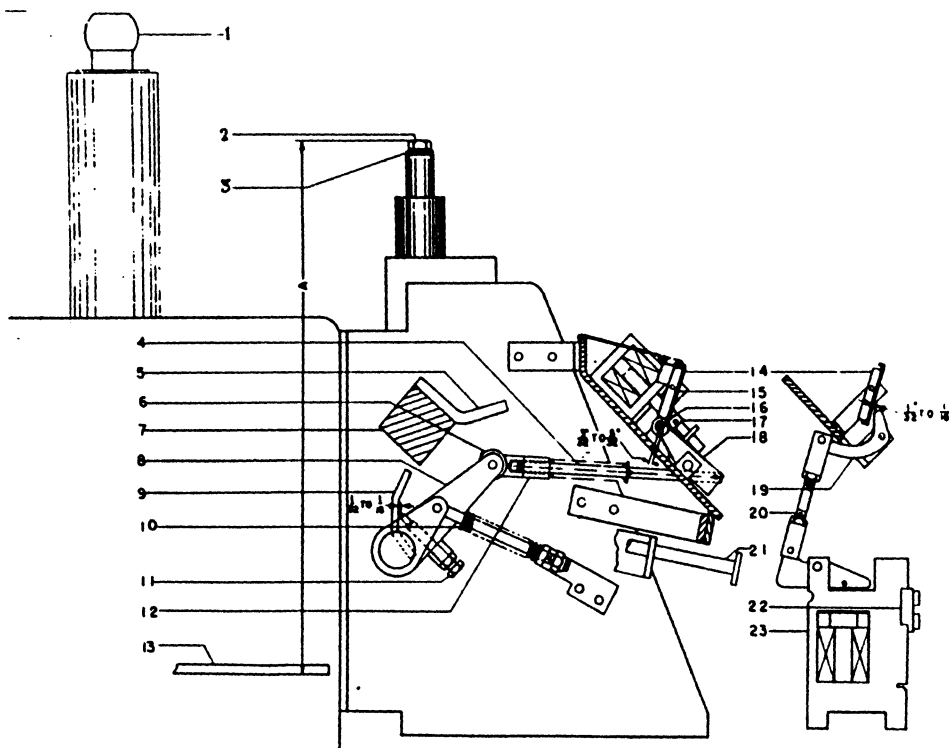

Figure 13 (0634D0336) Adjustments on Current Trip Device, Undervoltage Trip Device, and Plunger Interlock Shown With The Breaker In The Closed Position
Figure 13 shows the necessary settings that are to be checked when these devices are furnished. The amount of wipe between the trip roller (16) and the trip latch (15) should be 3/32" to 5/32". This can be altered by changing the number of shims under the block against which the trip plate (14) stops. In order to trip properly, the clearance between the trip bolt (11) and the trip plate (9) should be 1/32" to 1/16". This can be altered by releasing the check nut and screwing the trip bolt (11) in or out of the reset arm (8).
Refer to Figure 13. With the breaker in the close position, the vertical distance "A" from the top of the interlock bolt (2) to the bottom of the elevating bar (13) should be 11-7/32" to 11-11/32". To change this adjustment add or remove washers (3).